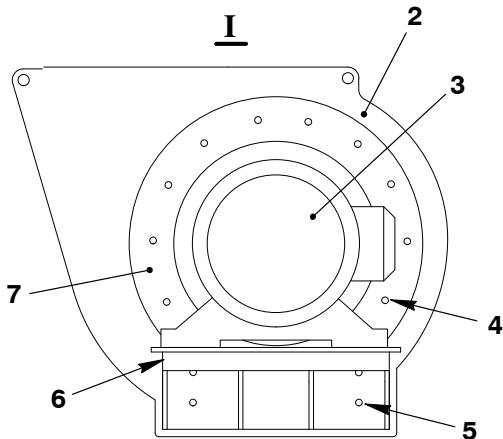

Fig. 5
- 12) Attach the flange (7, Fig. 5) to the casing (1) with the screws (4).
- 13) Attach the support (6) to the casing (2) with the four screws (5).
- 14) Connect the electrical connection to the electric motor (2).